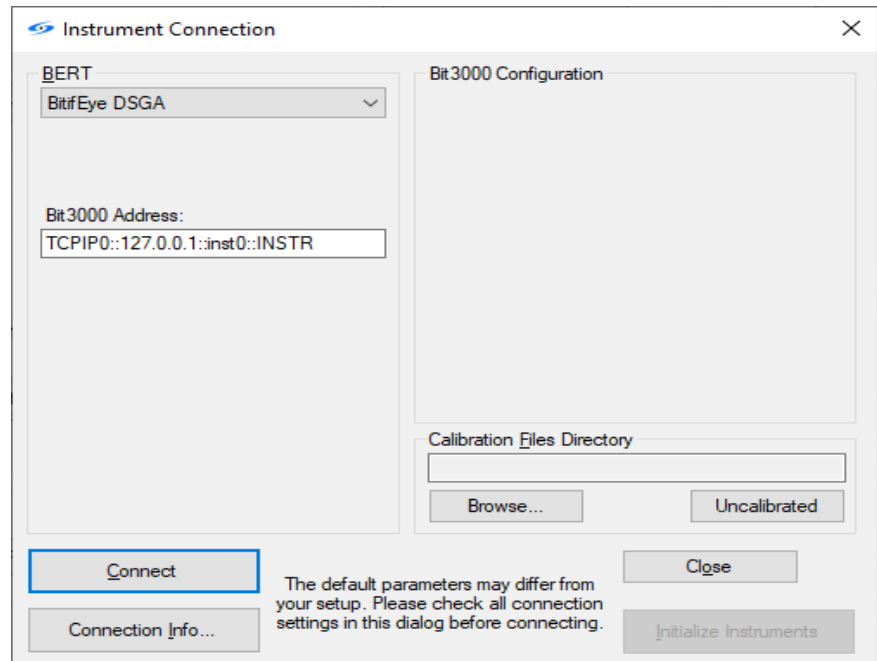

Figure 11 Instrument Connection Dialog (BitifEye DSGA selection)
- 2 The “**Auxiliary Instruments**” vary depending on the selected BERT configuration system (see Figure 11):